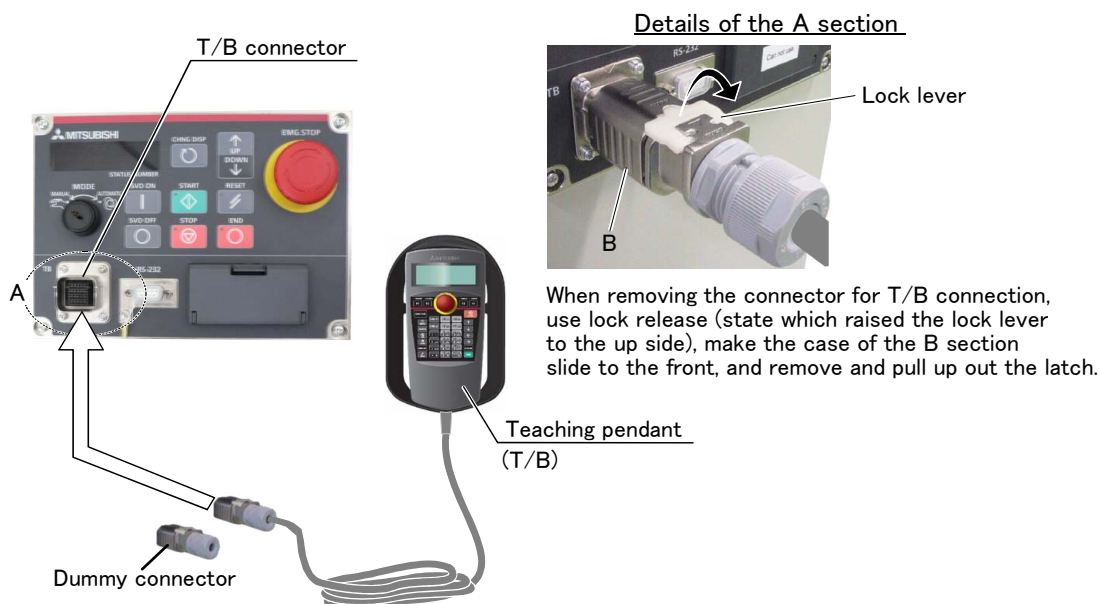

Fig.2-9 : Installing and removing the T/B
- 2) Connects T/B connector to the robot controller. Use as the upper surface the lock lever shown in Fig. 2-9, and push in until there is sound.